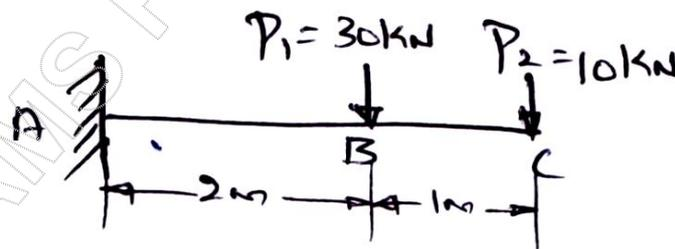

Fig.Q8(b) (10 Marks)
- b. A cantilever is subjected to the free as shown in Fig.Q8(b). Determine the deflection at the free end, taking  $E = 210 \text{ GPa}$  and  $I = 20 \times 10^{-4} \text{ m}^4$ .